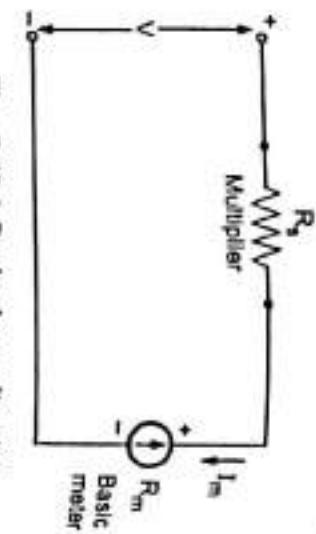

Fig. Q.13.1 Basic d.c. voltmeter
- The basic d.c. voltmeter is shown in the Fig. Q.13.1.
From Fig. Q.13.1,